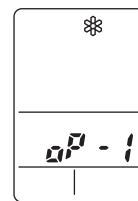

Fig. 59b
- d) ✻ appears and “oP-1” blinks in the remote controller clock display area. (Fig. 59b)